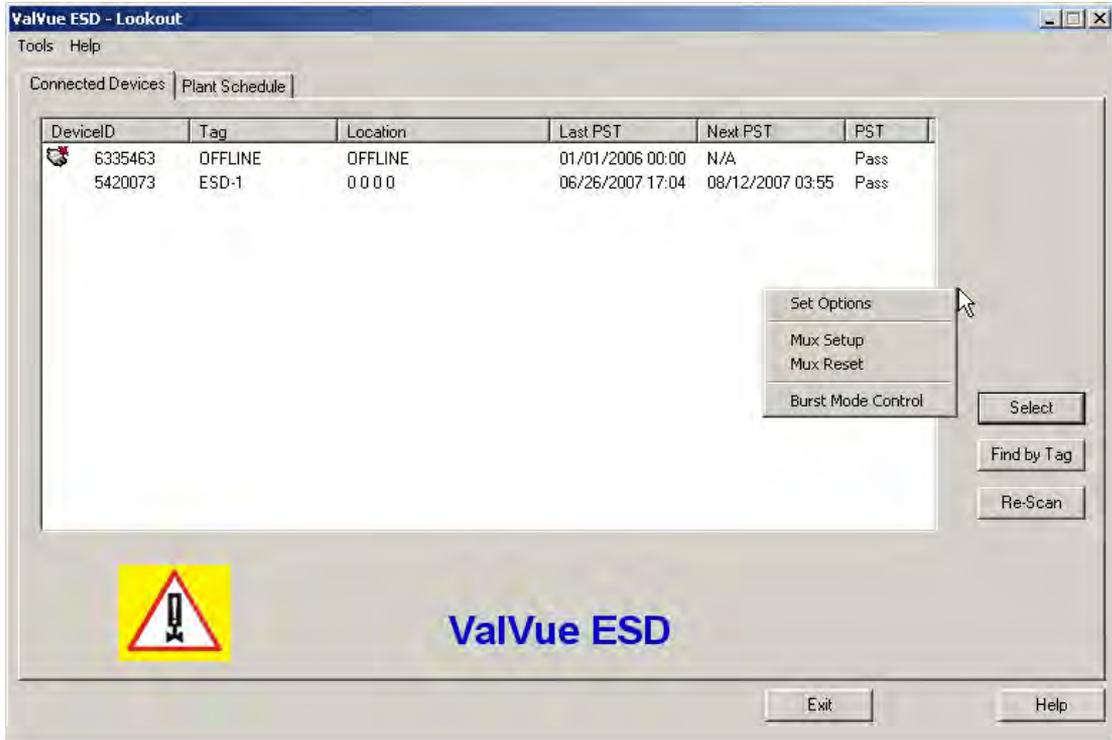

Figure 49 Context Menu with Mux Functions
2. Right-click on the **Connected Devices** page and select **Mux Setup** (Figure 49).